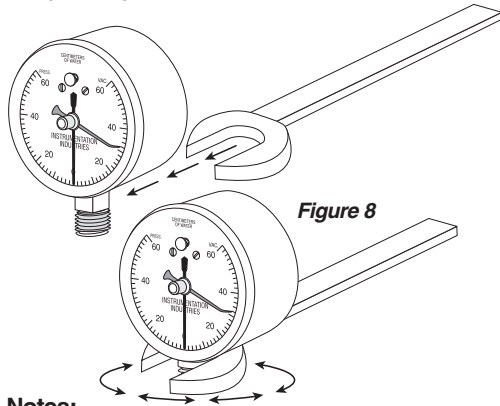

Figure 8
3. Place a wrench on the square fitting next to the gauge case to finish tightening. (Figure 8)